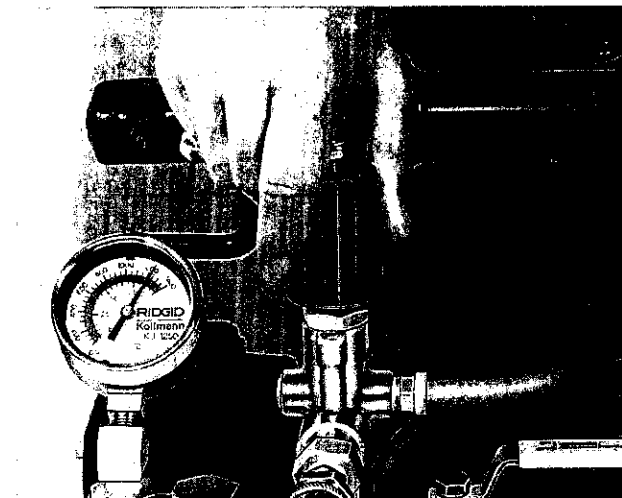

Figure 9. Adjust the unloading valve so that the pressure gauge shows 1250 PSI.
2. Turn the jetter switch "ON" and adjust the unloading valve so that the pressure gage shows 1250 PSI. At this pressure, the jetter draws approximately 12.5 amps when supplied with 115 volt A/C current. (Figure 9)